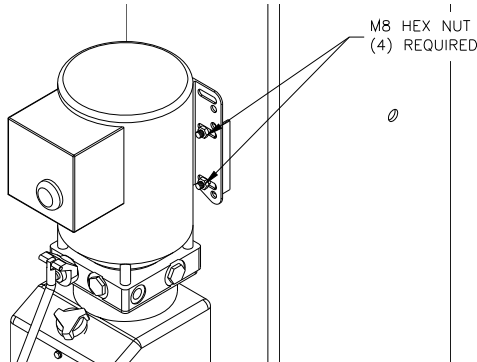

Fig 3 – Power Unit Mounting
- 10) Mount Power Unit to power column as shown in **Fig 3**. The (4) mounting hardware nuts are pre-installed on power unit mounting bracket.